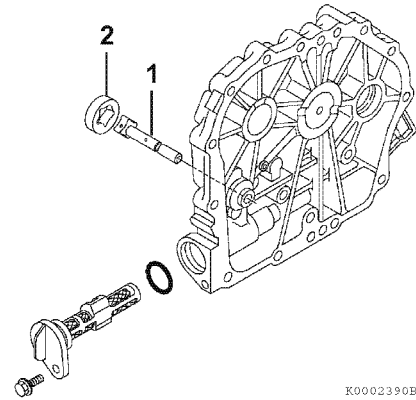

Figure 6-76
- Install the inner rotor and shaft assembly (2, **Figure 6-76**). Install the outer rotor (1, **Figure 6-76**) with the dot on the rotor facing up.